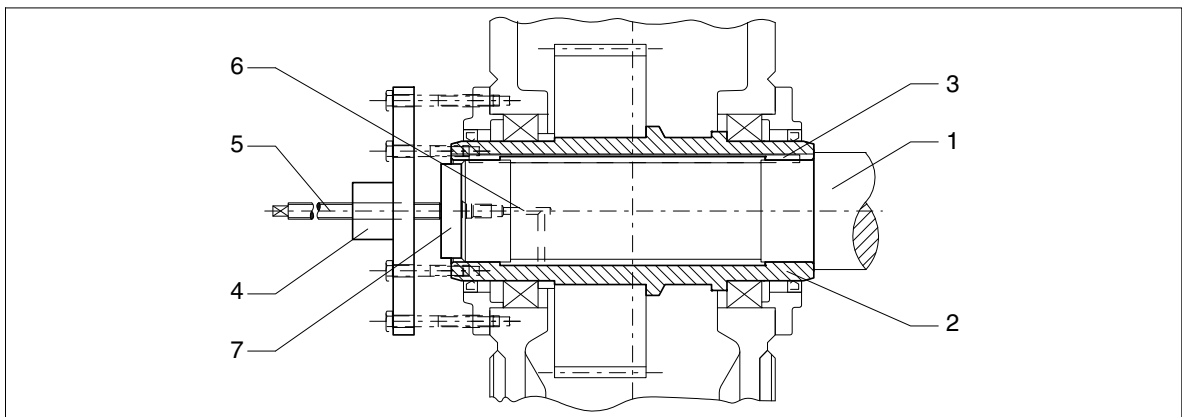

Fig. 48: Hollow shaft with parallel keyway, demounting with hydraulic lifting equipment ("Lukas")
- When the rust-releasing agent has taken effect, pull the gear unit off with the device (see figures 48 and 49).
If the counterforce is provided not only by the hollow shaft, but also by the housing, as shown in figure 48, the forces used must not exceed the values given in the following table 16.